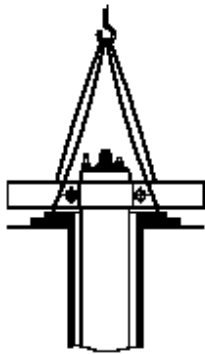

Fig. 2 Motor in vertical position.
2. Place the motor in vertical position at the borehole seal. see fig. 2